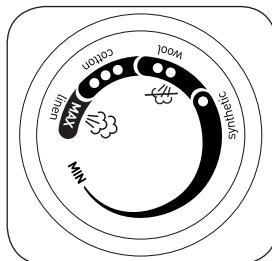

Fig. 8
Insert the plug into a power outlet. Turn the control knob (I) to the desired temperature (Fig. 8). The temperature control lamp (K) turns on.